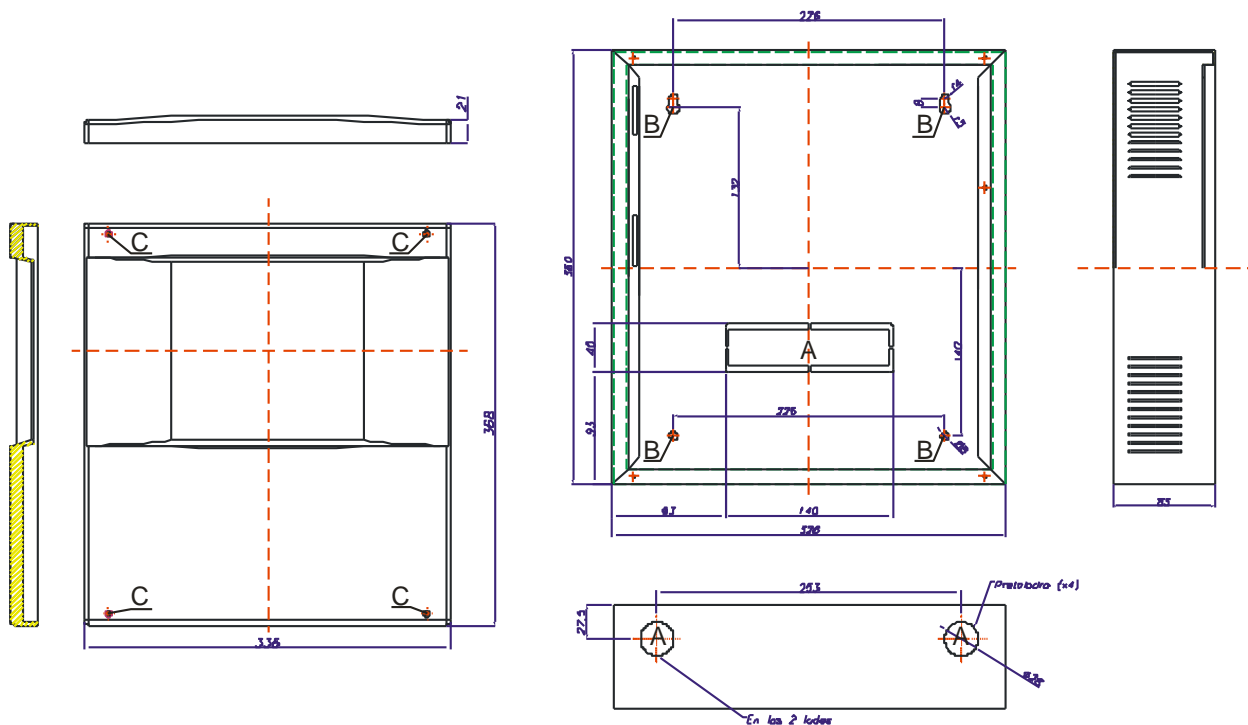

Figure 1: door dimensions and central chest (mm).
- 2.3. **Door** (368 x 336 mm): which is the fox by 4 front bolts near the corners (Letter C figure 1).
Regarding the box, it is equipped with 4 circular knockouts of 28 mm and 1 rectangular 140 x 40 mm to allow access of wiring to the box (Letter A figure 1).
To install the box to the wall, there are 4 holes distributed on the back side near the corners. 2 rounds in the bottom of 8 mm diameter and 2 oval on top (Letter B figure 1).
Therefore, the installation of the control panel is as follows (see Figure 1):
- Remove the door of the box by removing the bolts of the corners (Letter C Figure 1).
- Open knockouts required for passing cables to the control panel (Letter A Figure 1).
- Mount the box on the wall using the holes (Letter B Figure 1).
Note 2: the box is designed with an IP30 protection index. If it is necessary to open the side knockouts for cable passage (letter A in Figure 1), consideration should be given to blocking the remaining space of the hole, for example with cable glands, to keep this same protection.